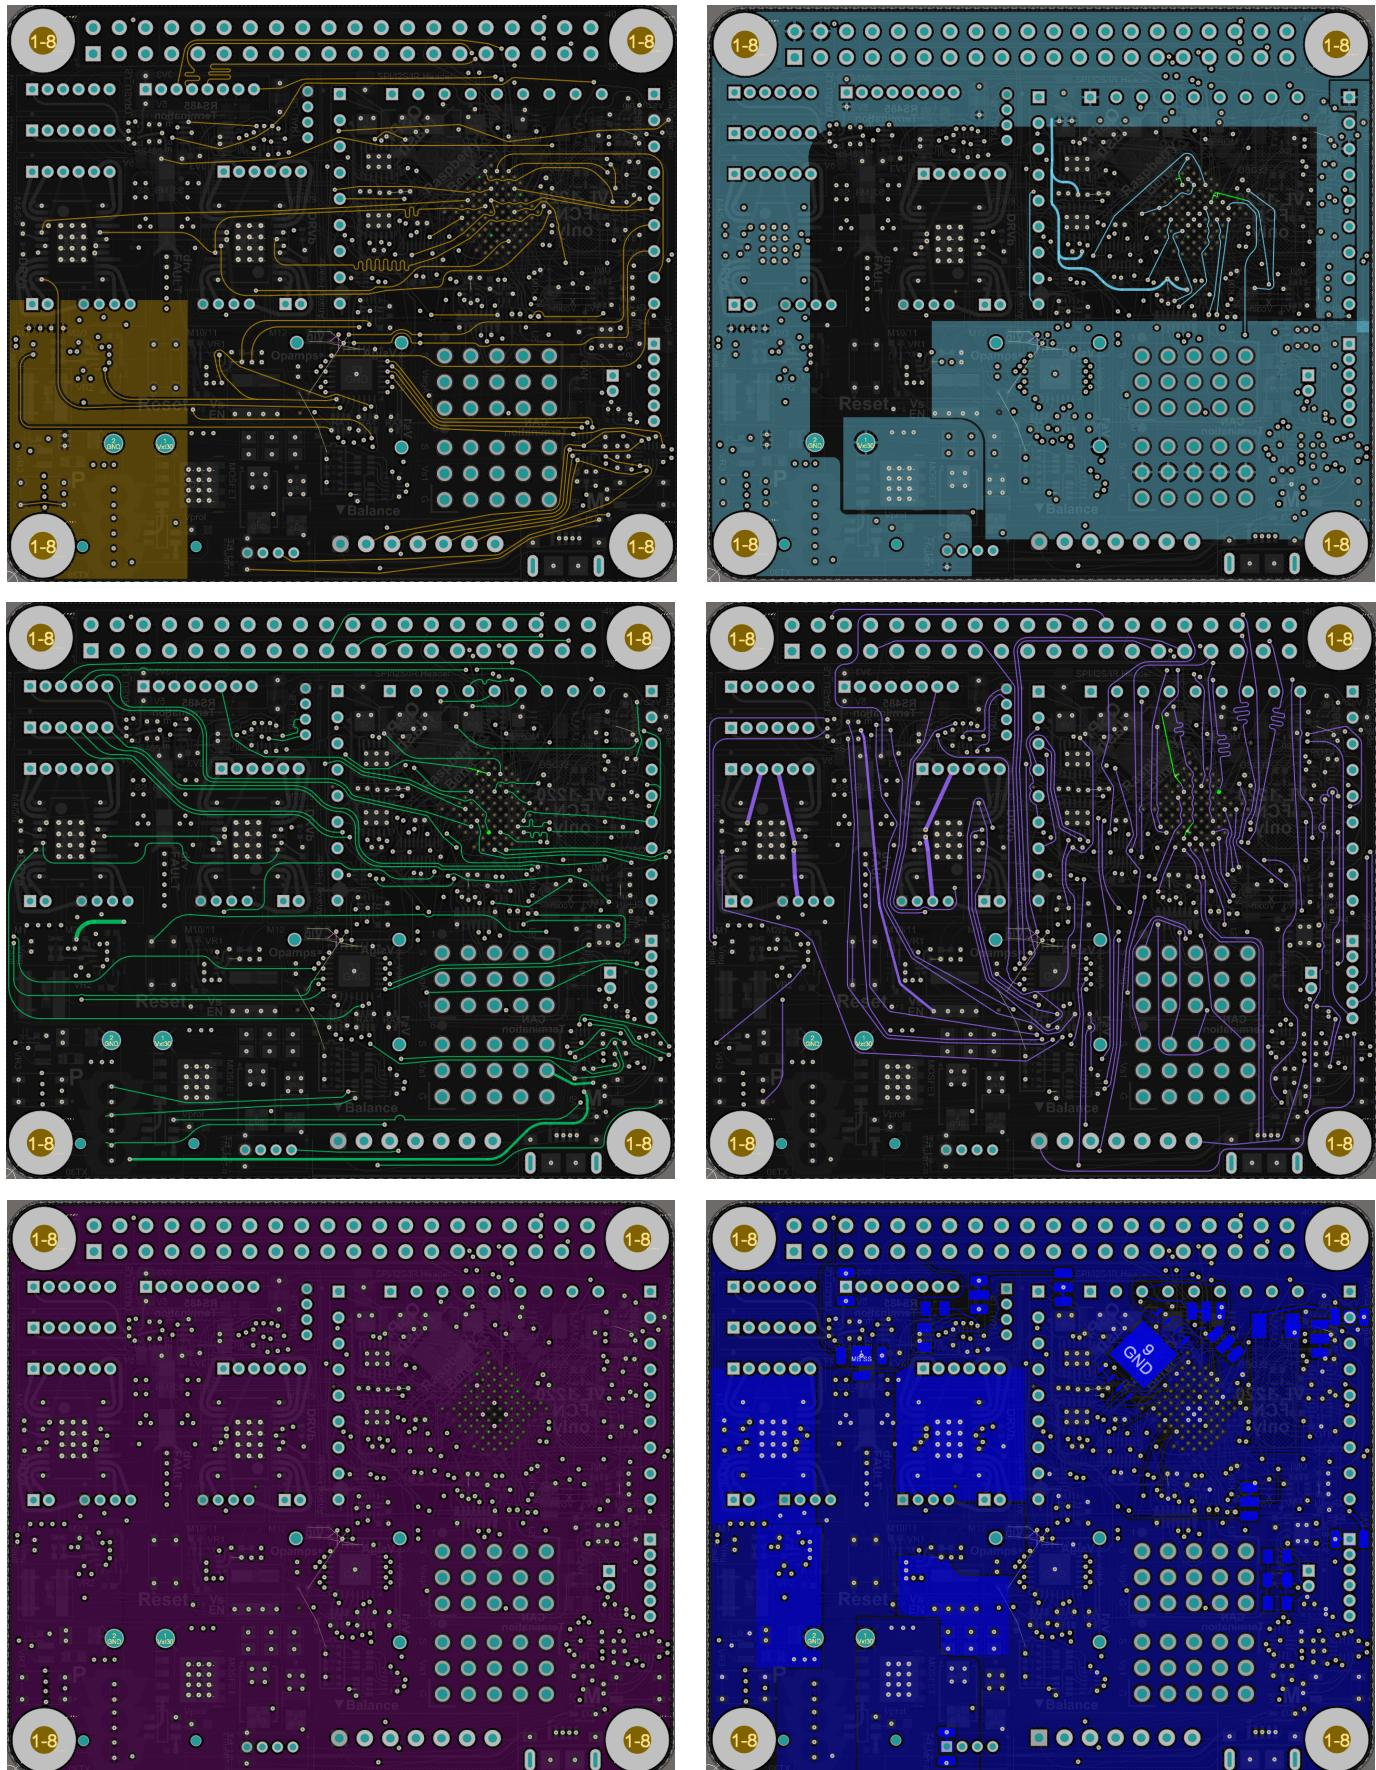

Figure 5.16: Layout of layers 3 through 8 of the Raspberry Beret (continued from previous page).
- primarily N-S traces were isolated on layers 6 and 8 (see, e.g., the purple traces of Layer 6 in Figure 5.16), while
- primarily E-W traces were isolated on layers 3 and 5 (see, e.g., the green traces of Layer 5 in Figure 5.16).
3. Matched-length traces were used, on each layer, for the parallel traces associated with clocked high-speed communication channels (e.g., MOSI, MISO, SCK), as illustrated, e.g., by the extra wiggles of the purple traces in the NE corner of Layer 5 in Figure 5.16.